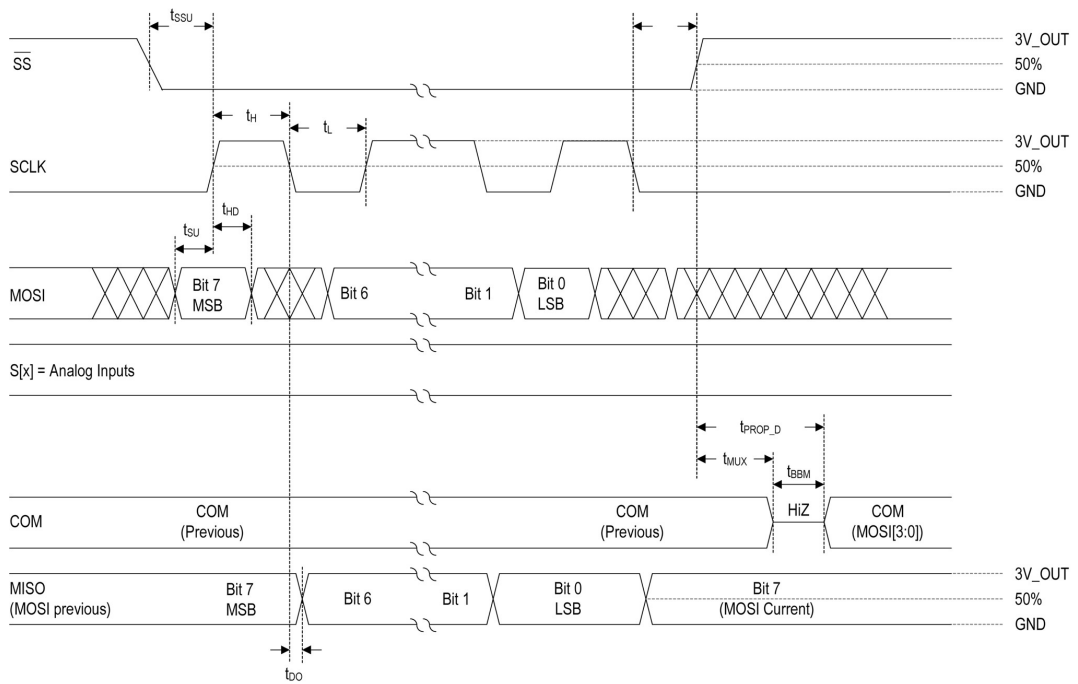

Figure 7. UT16MX112 Timing Diagram
1. See figure 7, Multiplexer Serial Timing (UT16MX112), for detailed timing.